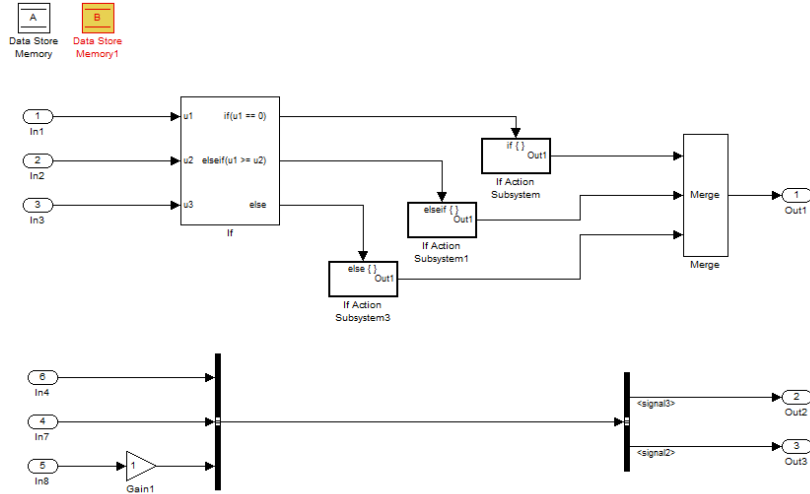

Figure 7: Resulting model after **Reach/Coreach** operation
5. Let us now perform a reach/coreach in the model. First, reopen the demo model, so as to start from new. Right-click on Data Store Memory B, and select the **Reach/Coreach From Selected** option. The resulting model is shown in Figure 7. By doing both a reachability and coreachability analysis on this block,